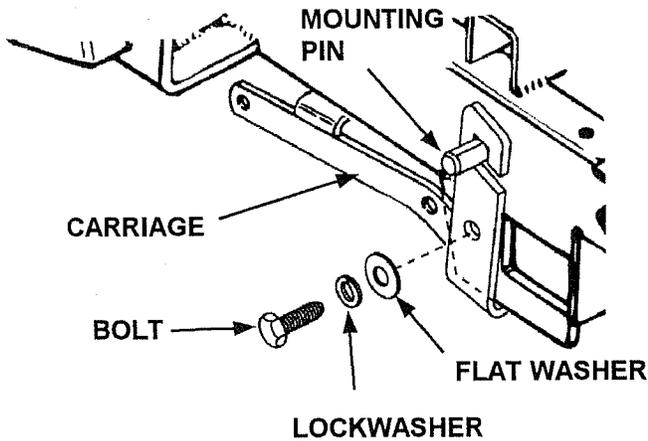

FIGURE 37
5. (See figure 37) Raise the front of the deck to mount the carriage on the mounting pins. Secure to loader frame with 1/2" x 1" bolts, flat washers and lockwashers.